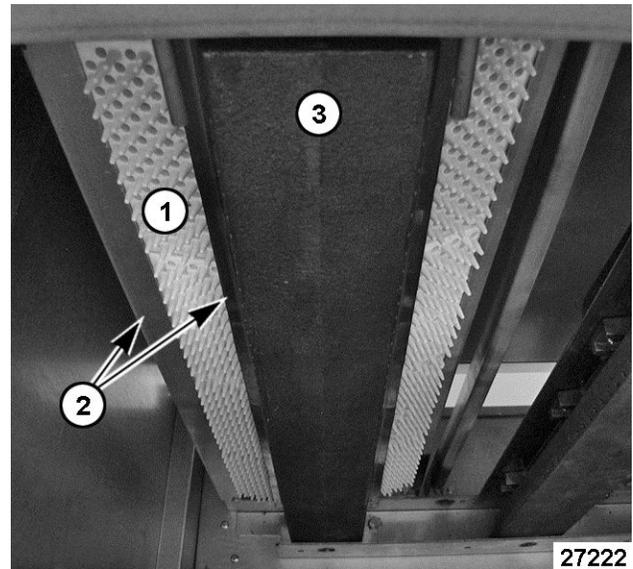

Fig. 12
- Lift ceramic bricks [1] Fig. 12 off the support rails [2] Fig. 12 for each burner [3] Fig. 12. There are 6 ceramic bricks for each of the 3 burners (18 bricks total).